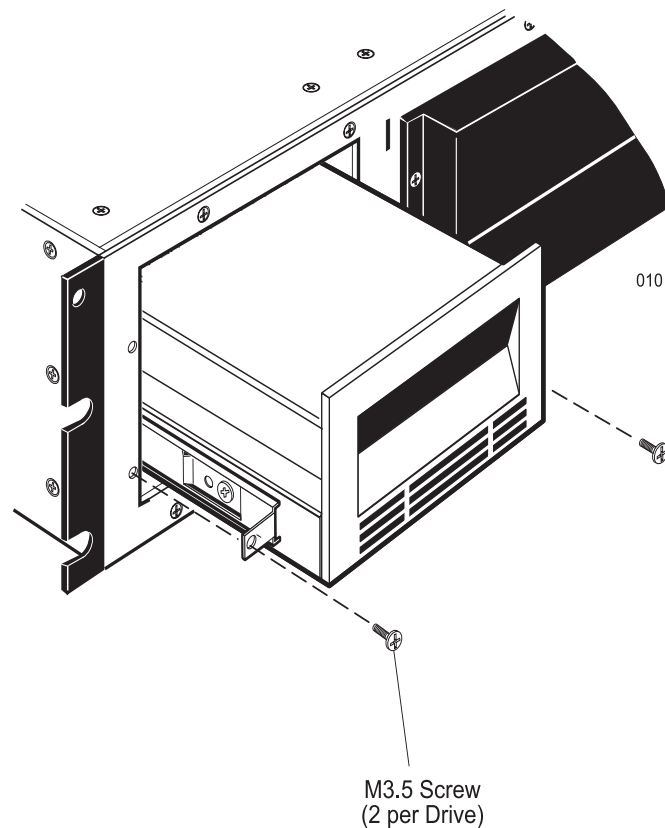

Figure 12: Installing a Typical Full-Height 5.25" Drive into the NetMEDIA
2. Fasten the drive to the chassis with the two (2) M3.5 screws provided (Figure 12). Do not tighten screws at this point. Before tightening the screws, verify that the drive(s) are flush with the front bezel. Adjust if necessary, and tighten screws.